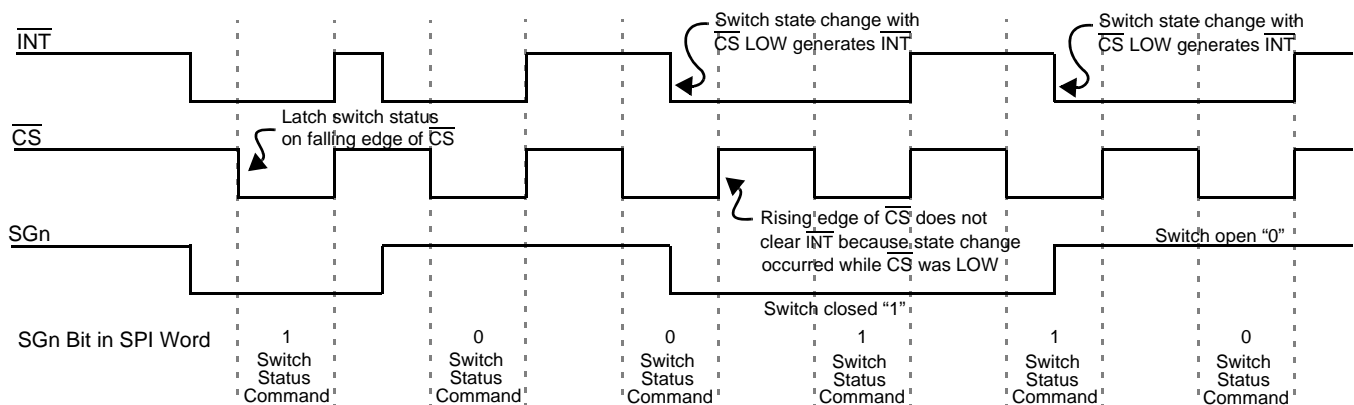

Figure 6. Normal Mode Interrupt Operation
2. INT pin is reset to logic [1], except when additional switch changes occur during \overline{CS} LOW. (See Figure 6 on page 9.)